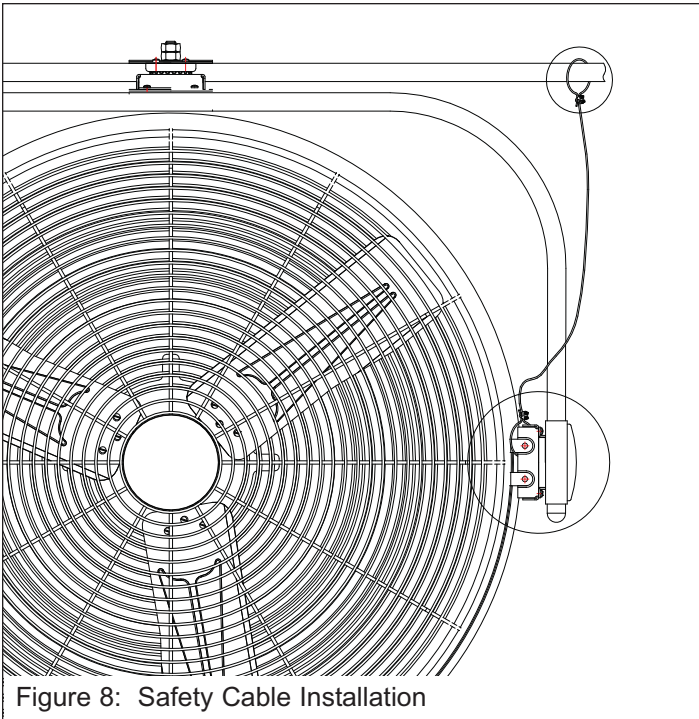

Figure 8: Safety Cable Installation
1. After the fan is securely mounted, feed the safety cable between one of the swivel brackets as shown in figure 8.